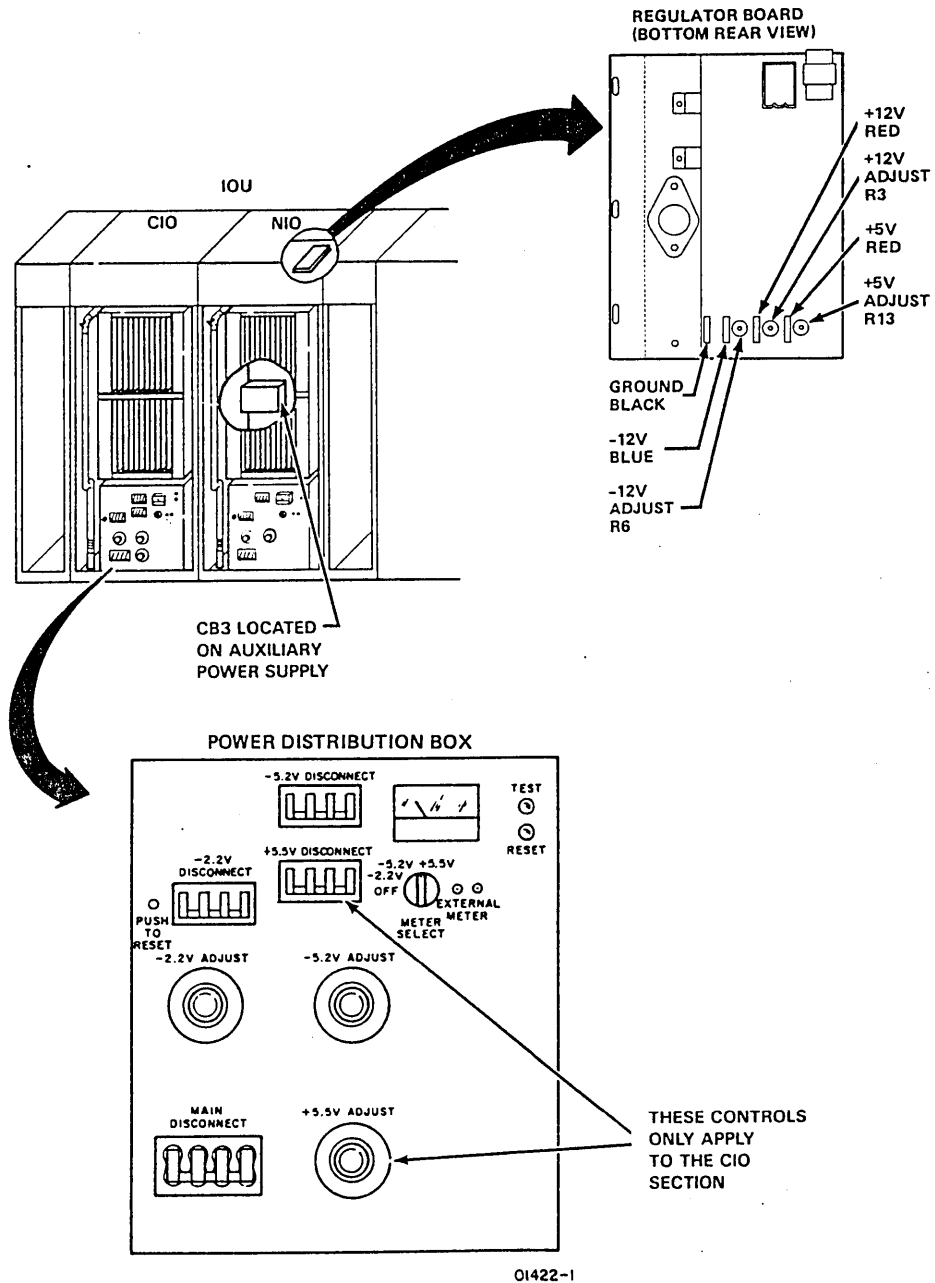

Figure 3-45. IOU Power Controls and Adjustments
- ___ b. Reconnect multimeter ground and to +12 V test points on regulator board (figure 3-45).